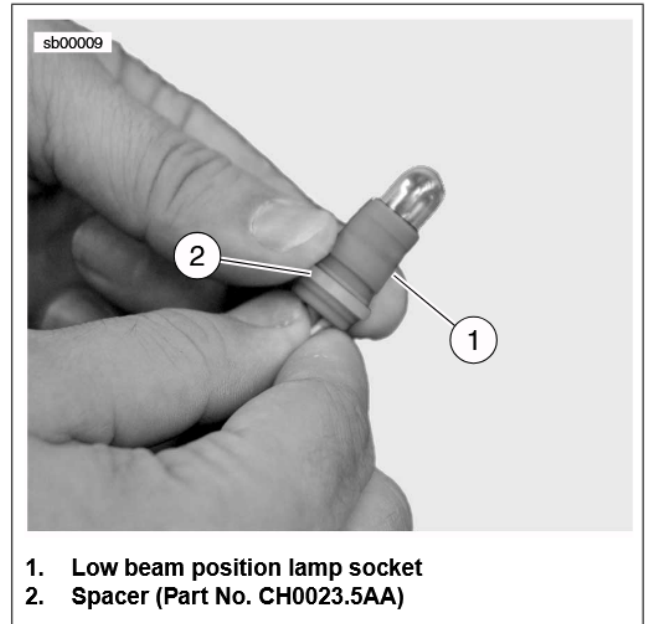

Figure 4. Low Beam Position Lamp Spacer (EUR/ENG/AUS/JPN Models Only, Kits 94625Y and 94626Y)
- d. Install headlight into support bracket with four screws (4). Tighten screws to 20-25 **in-lbs** (2.3-2.8 Nm).
- e. See Figure 4. On EUR/ENG/AUS/JPN models only, install spacer (Part No. CH0023.5AA) from kit (94625Y and 94626Y only) onto one of the rubber position lamp sockets as shown. Push the position lamp with spacer into bottom of low beam headlamp. Install other position lamp (without spacer) into the high beam headlamp.